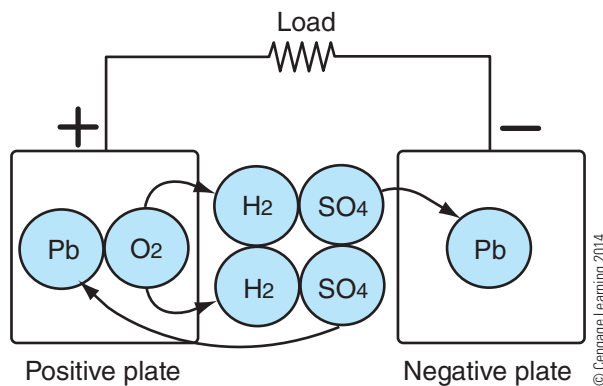

Figure 5-12 Battery discharge chemical reaction.
Several pairs of plates are connected in parallel to form a cell. The six series-aiding connected cells combine to produce about 12.6V. However, the voltage produced by the plates decreases as the battery discharges. An electrolyte is a solution made with water that conducts electric current. The sulfuric acid electrolyte starts out as sulfuric acid diluted with water. Sulfuric acid is a compound made of hydrogen (H) and sulfate (SO₄). The chemical reaction during the discharge phase causes the sulfate (SO₄) in the electrolyte to combine with the lead (Pb) in the negative plate to transform the negative plate into a compound called lead sulfate (PbSO₄). This is illustrated in **Figure 5-12**.